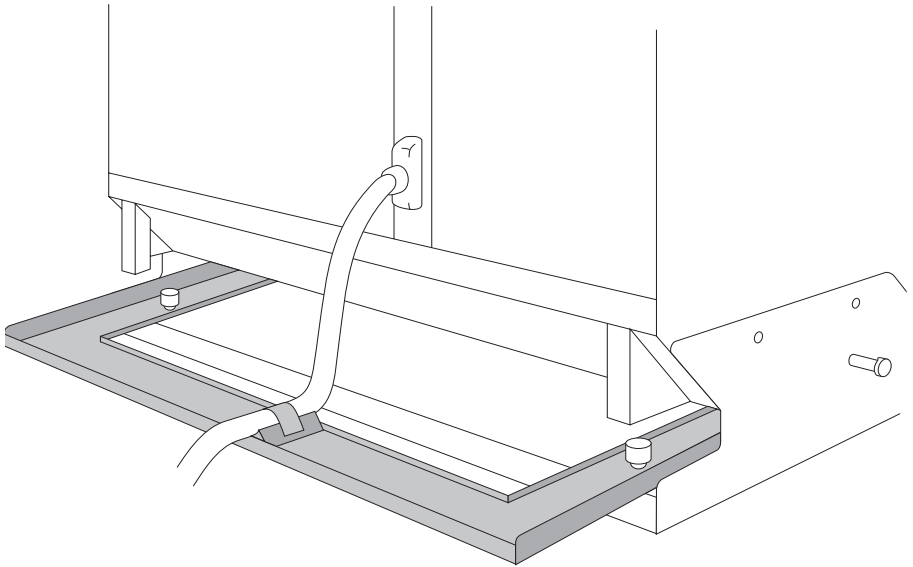

Figure 2-11 Cables at the front of the MSH
- 2 Figure 2-11: The bracket that holds the cable clips can slide away from the MSH chassis; undo the two thumb-screws, slide the bracket out and retighten the thumb-screws. Let cables drop down the front of the chassis, insert them through the back of